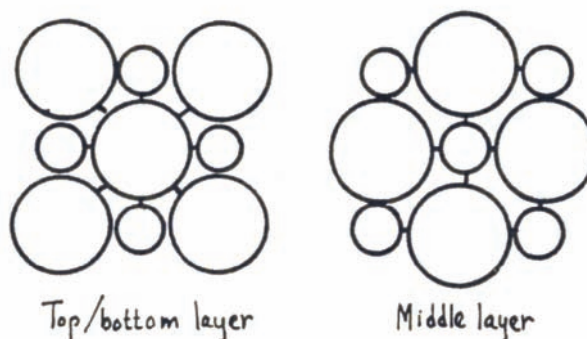

Figure 4.9. Ionic Crystal.
4. Prepare a model of an ionic crystalline solid, such as sodium chloride (NaCl). Use 14 2-in.-diameter balls, 13 ½-in.-diameter balls, and 28 toothpicks to form three layers of an ionic crystal, as illustrated in Figure 4.9 (the top layer is the same as the bottom layer). Put the layers together like a sandwich. Draw a picture of this ionic crystalline solid.